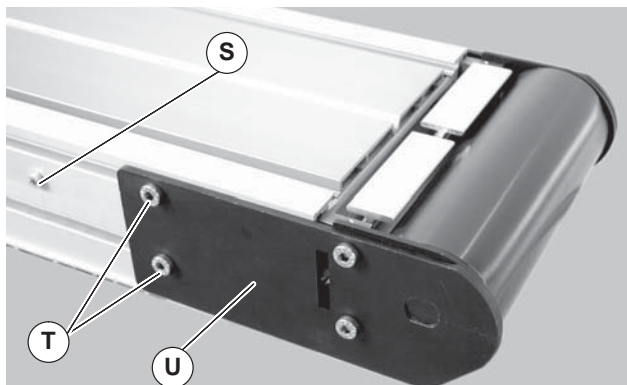
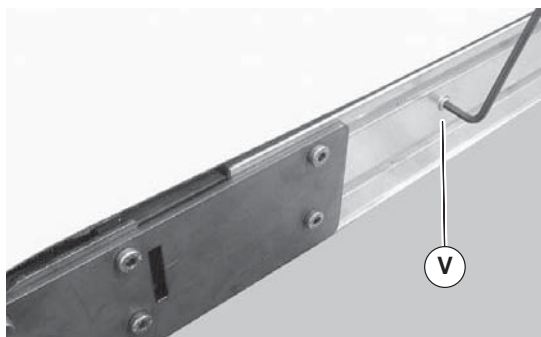

Figure 18
Figure 19
- On tension end of the conveyor, identified by the pinion locking screw (Figure 18, item S), push in head plate assembly (U): Loosen the pinion locking screw (S), adjust the pinion torque screw (Figure 19, item V). On both sides of conveyor, loosen the two tail clamp bolts (Figure 18, item T), and push head plate assembly (U) inward.